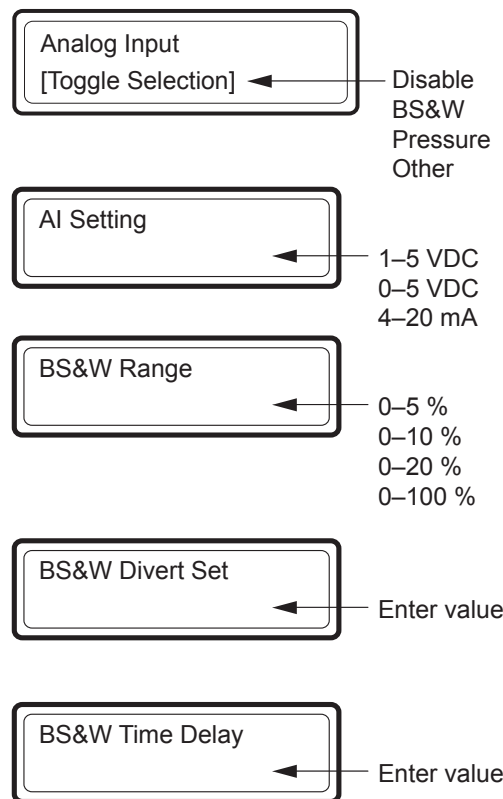

Figure 4.5—Configuration menu for BS&W input
2. Press INCREMENT and ENTER buttons simultaneously, then release to enter the configuration menu (Figure 4.5, Page 34).